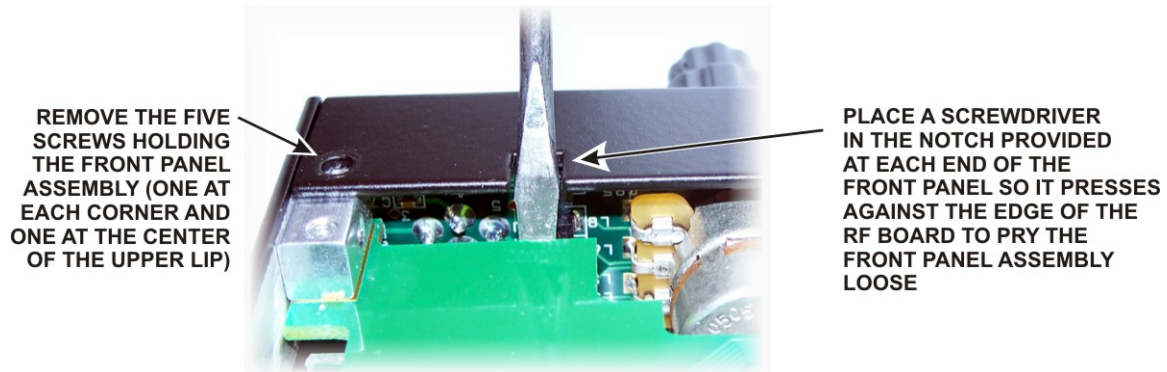

Figure 63. Removing the Front Panel.
**⚠ REMOVING THE FRONT PANEL:** If you need to remove the front panel assembly, remove the five screws holding it to the chassis (three on the top lip and two on the bottom), turn the unit upside down and use a screwdriver in the two pry slots provided as shown in Figure 63. Do not insert the screwdriver deep enough to strike components on the boards! Pry each end in short increments until the connectors separate. Either a blade (as shown) or Phillips screwdriver may be used. Note that you may need to remove the left side panel and the 2D mounting screw shown in Figure 62.